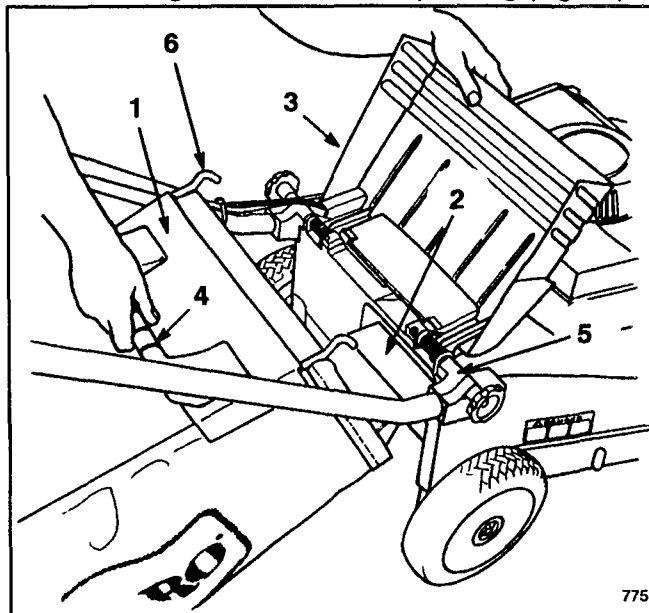
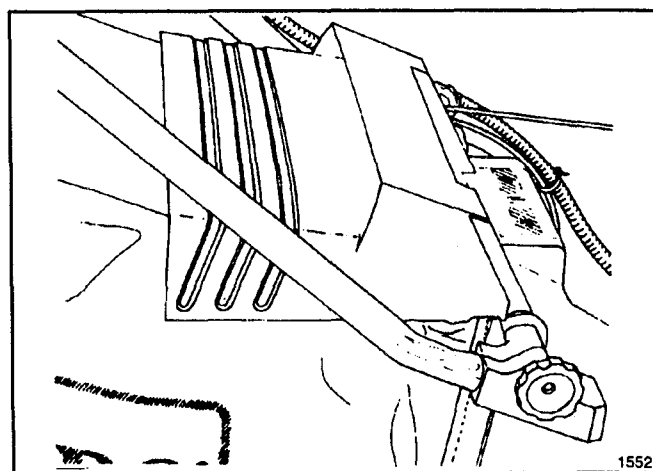

Figure 15
Figure 16
2. **INSTALLING BAG**—Raise discharge door, slide bag ramp attached to bag into discharge opening, and hook bag frame onto mounting bracket (Fig. 15). Allow discharge door to rest on top of bag (Fig. 16).